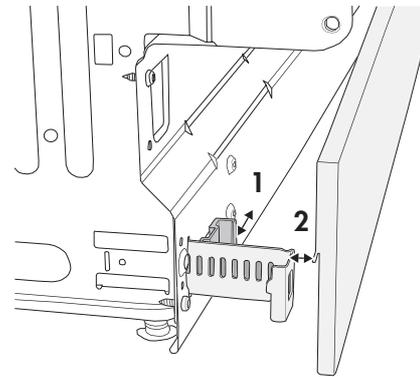

Figure 9.
1. Move the grey hooks towards one another and pull out the holders as far as required. Push in the hooks so that they lock the holders securely (see Figure 9).